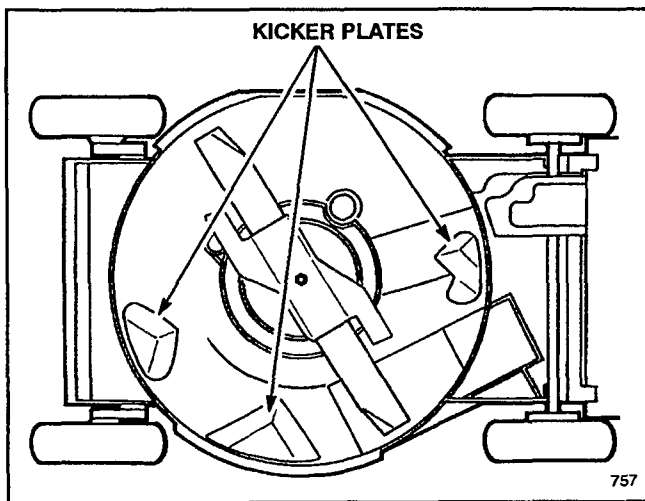

Figure 9
B. Three special "kicker plates" positioned on the underside of the mower deck in strategic positions (Fig. 9)